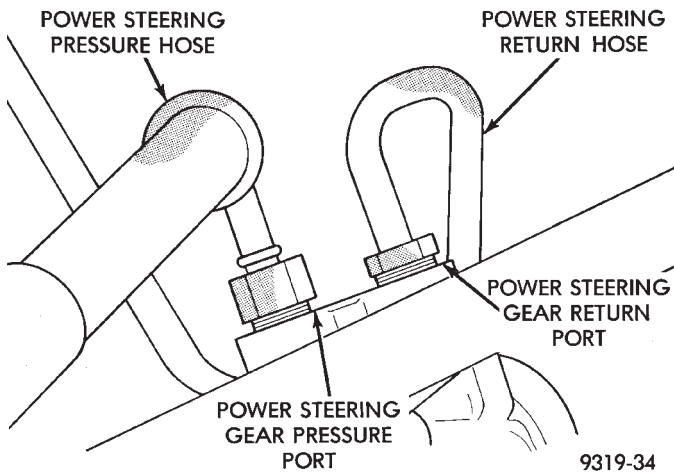

Fig. 15 Power Steering Fluid Line Connections At Steering Gear
(5) Attach power steering fluid, pressure and return lines onto proper ports of the steering gear (Fig. 15). Torque both power steering line fittings at steering gear to 31 N•m (23 ft. lbs.).